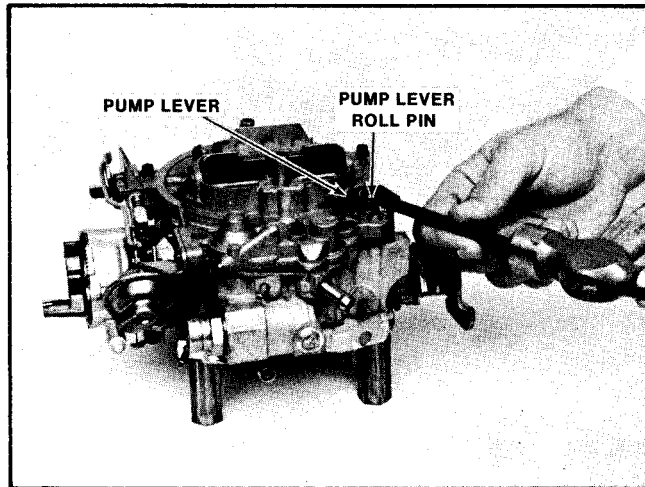

Figure 44 Pump Lever Removal
5. With tool BT 7523 or equivalent, drive small roll pin (pump lever pivot pin) inward just enough until pump lever can be removed from air horn (Figure 44). Then remove pump lever from pump rod. Note location of rod (if in inner or outer hole) for later reassembly.